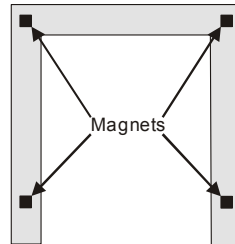

Figure 2
3. The trim is held on by four magnets. These will either be attached to the trim or supplied loose in a separate envelope. Space them as shown in **Figure 2**.